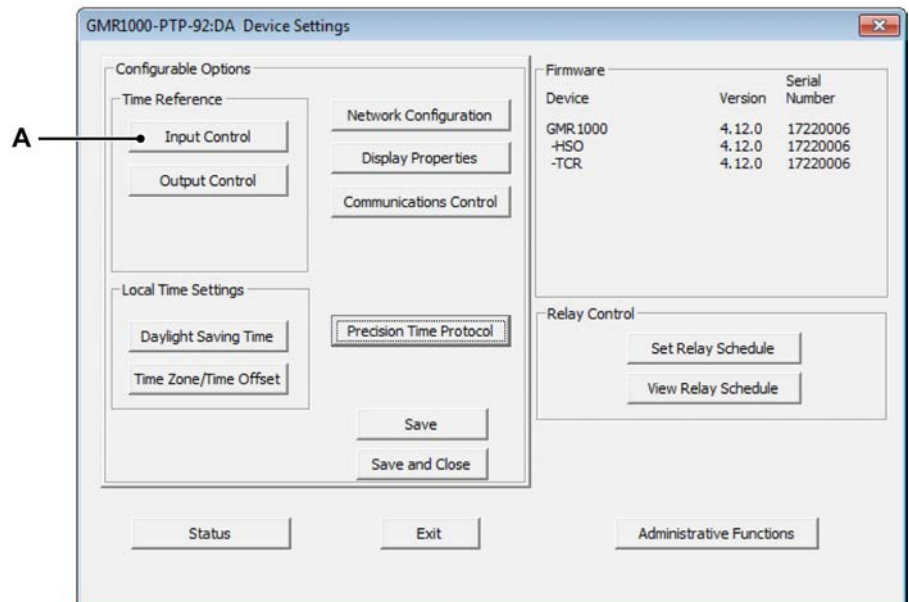

Figure C.58: GMR1000 PTP Device settings
- 2 Expand the tree in the **Device Configuration Utility** until the specific device is found, which is part of the GMR1000 Master reference -> GMR1000 PTP Server family. Once found, click on the device, this will open the device settings window (see Figure C.58).